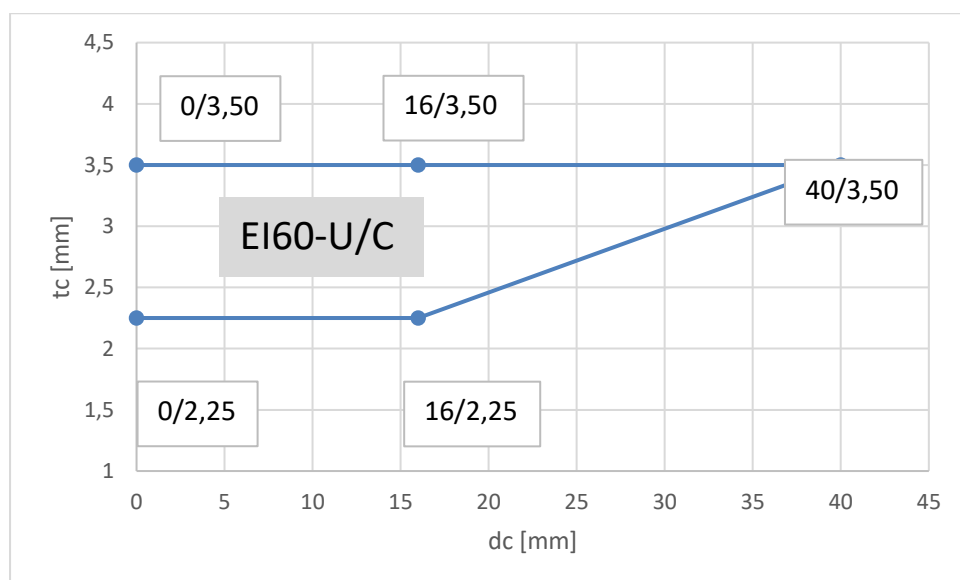

Figure 50: Classified range for insulated Geberit Mepla pipes, sealed with CFS-IS in CFS-CT HDB
Classification given in Figure 50 is valid for:
- For dimension refer to Figure 50